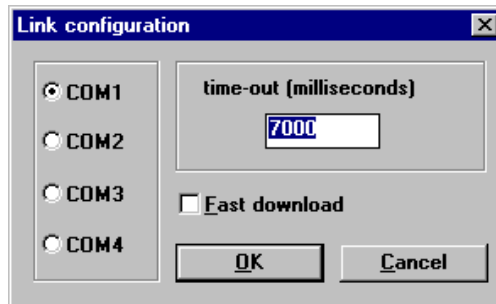

Figure 2-14 : Serial interface configuration window
- ⇒ Check that the communication cable is properly connected to the PC at the selected serial interface: COM1 by default. If this isn't the case then modify the configuration in the *"Link configuration"* window (Figure 2-14) according to your connection.